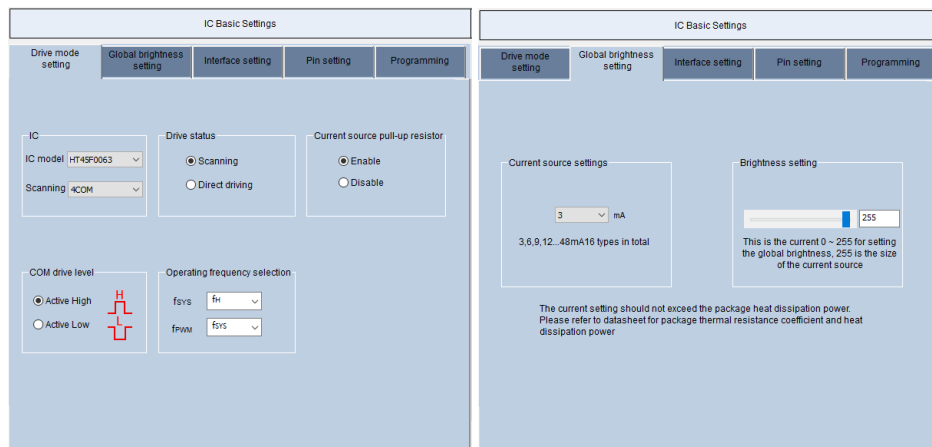

Figure 4.2 Driving Mode Settings and Global Brightness Setting
1. Driving mode setting: Select IC model and set the relevant registers, as shown in Figure 4.2.
- Global brightness setting: Current source and brightness settings, as shown in Figure 4.2.